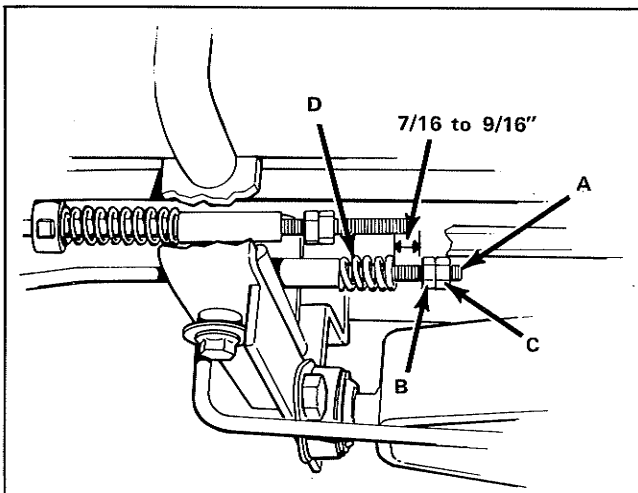

Figure 30. Brake Rod Adjustment
1. With the tractor on a level surface, place the transmission in gear and release the parking brake. Grasp the brake rod (item A, figure 30) and push it firmly forward to seat the brake band on the drum.